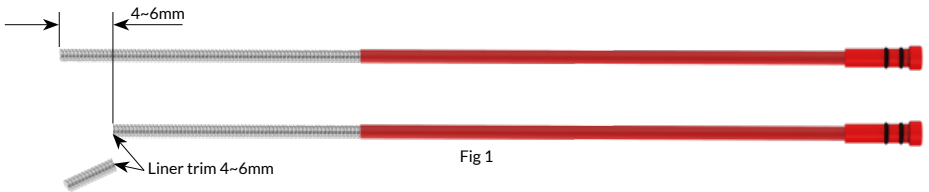

Fig 1
- Dry any excess water from the holder (this will prevent contamination of the torch liner). (Fig 1)
- Feed in the new liner in short strokes 20cm per time. (Fig 1)
- Pull out the liner from the Torch , and trim liner 4-6mm from front end. (Fig 1)
- Ensure the liner is under slight compression within the torch conduit. Mark the position at the rear of the liner collet. (Fig 1)